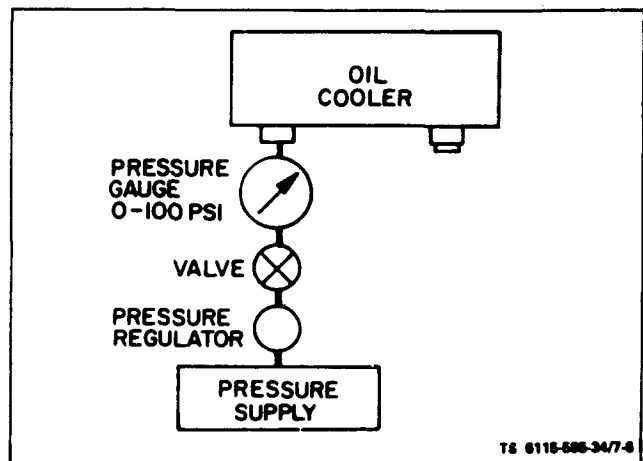
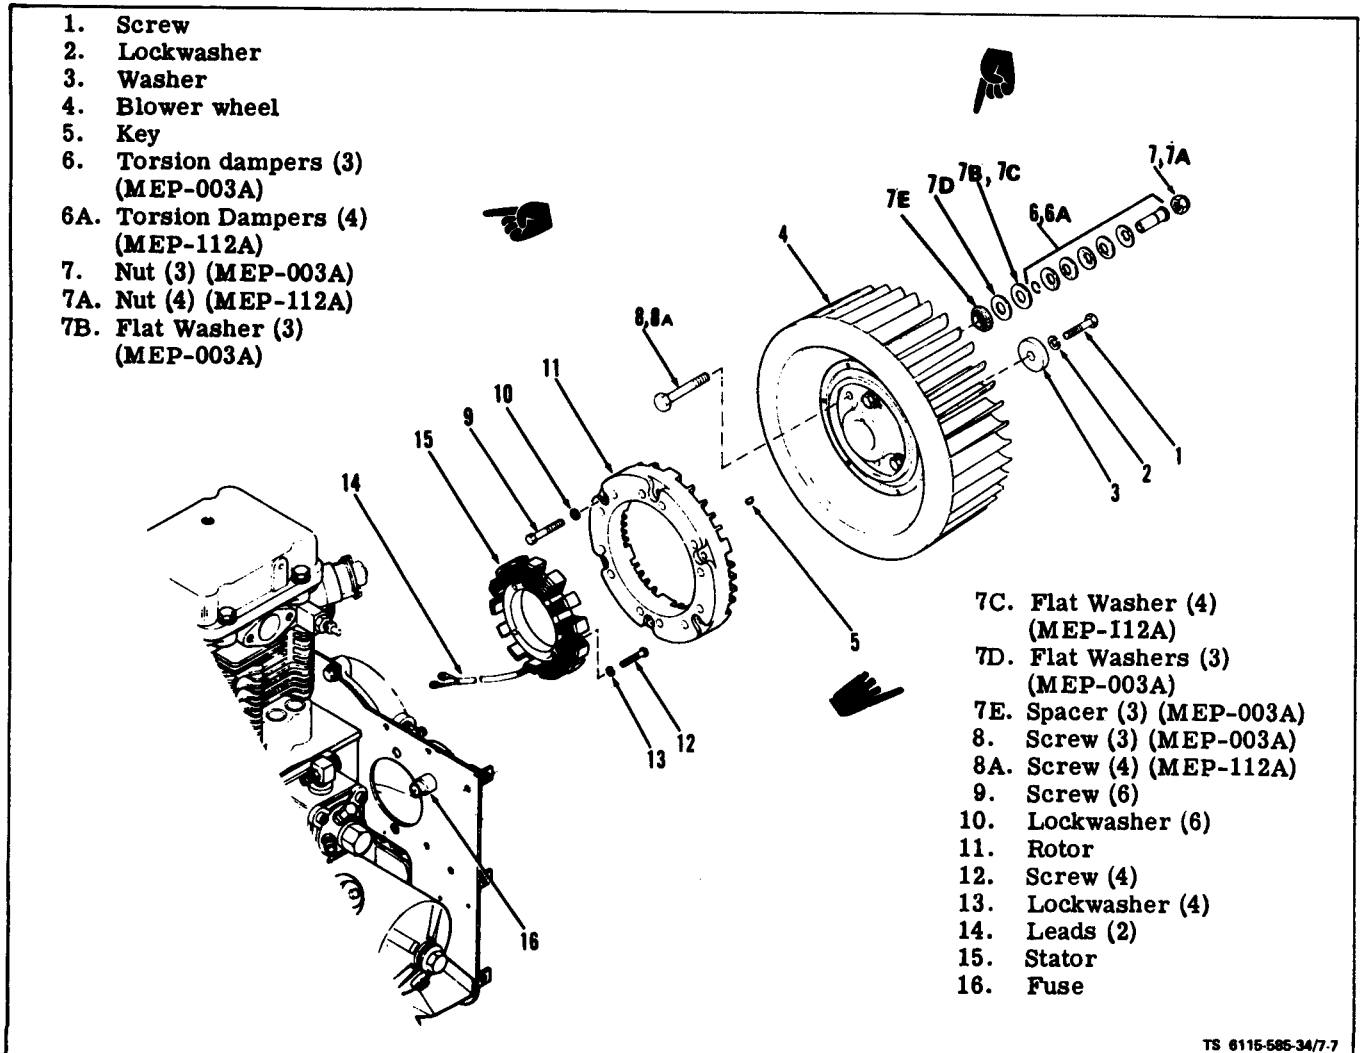

Figure 7-6. Testing Oil Cooler
Figure 7-7. Battery Charge Alternator and Blower Wheel
c. Test (see figure 7-6).
- (1) Plug the oil cooler outlet using suitable plug.
- (2) Connect the oil cooler in suggested test set-up (see figure 7-6).
- (3) Apply 25 psi air pressure to the oil cooler.
- (4) Close the valve and monitor the pressure. A drop in air pressure indicates a leak in the oil cooler.
a. Inspect (see figure 7-7).
(1) Refer to Operator and Organizational Maintenance Manual and remove blower housing.
(2) Check blower wheel (4) for cracks or broken fins. Check for free play between blower wheel and hub. Replace torsion damper assemblies (6) if free play is present.
b. Removal. Remove screw (1), lockwasher (2) and washer (3), attaching blower wheel to crankshaft. Use two 5/16-24 screws in blower hub and a suitable puller to remove blower wheel (4) and key (5).
(2) Check stator wiring and voltage regulator wiring for loose connections or shorts. Check fuse F 1 (16).
(1) Rotor. Refer to Operator and Organizational Maintenance Manual and remove the blower housing. Remove blower wheel assembly (4, figure 7-7) per paragraph 7-7. Remove rotor mounting screws (9) and lockwashers (10) attaching rotor(11) to blower wheel (4) and remove rotor (11).
(2) Stator. Disconnect stator leads (14, figure 7-7) from terminal block on engine back plate. Remove wire clamp from oil filter casting. Remove screws (12) and lockwashers (13) attaching stator (15) to engine and remove stator (15).